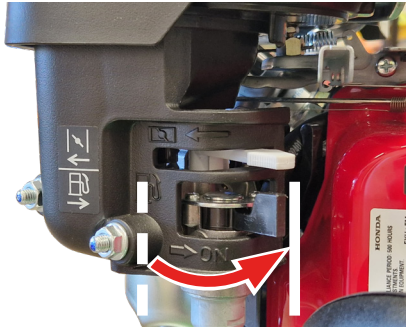

Fig.7C - Fuel lever open.
3. Set the fuel lever to the *open* position (Fig.7C).